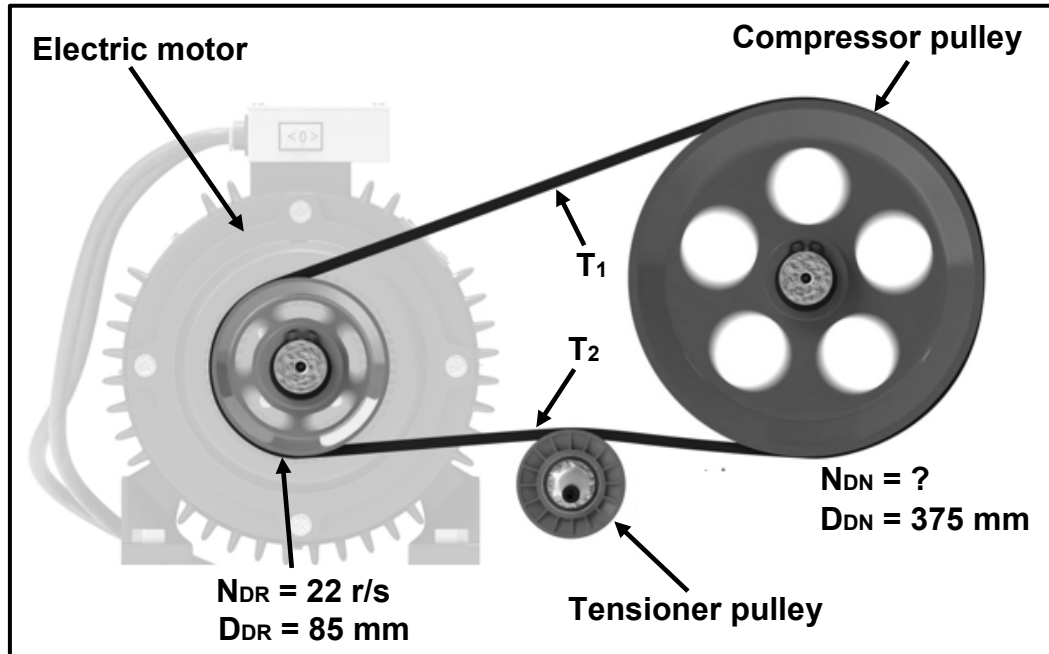

FIGURE 11.4
- 11.4 The belt drive system on a compressor is shown in FIGURE 11.4 below. The tensile force in the tight side of the belt is 450 N. The ratio between the tensile force in the tight side and the tensile force in the slack side is 2,5 : 1. (Belt thickness may be ignored.)